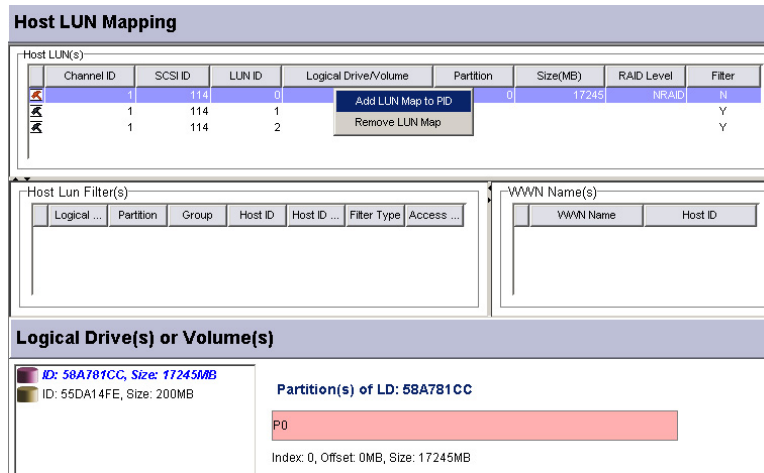

Figure 10-2: Selecting the Host Channel ID Number
Step 2. The Host LUN Mapping window should appear on the right. Right-click on the Host LUN(s) sub-window to display **PID** (Primary controller ID)/**SID** (Secondary controller ID) command menu as shown in *Figure 10-2*. Infortrend's controllers or subsystems always come with pre-configured IDs. If it is necessary to add alternative IDs, please select the **Channel** window from the navigation panel.
**Step 1.** Follow the steps listed in *Section 10.1* above to access the **LUN Map Setting** window shown in *Figure 10-2*.